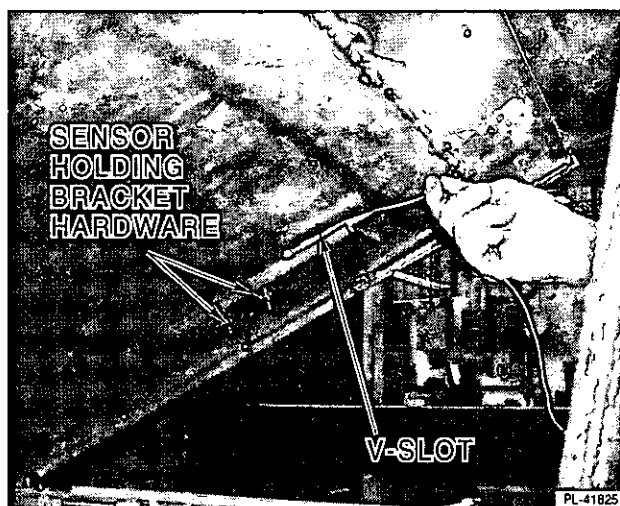

Fig. 17
7. Slide the thermostat bulb through the V-slot (Fig. 17) in the sensor holding bracket. Tighten down the sensor holding bracket hardware. Neatly coil the excess capillary line without kinking and lay resting in front of the heat shield. Do not pinch the line when reinstalling the control cover.